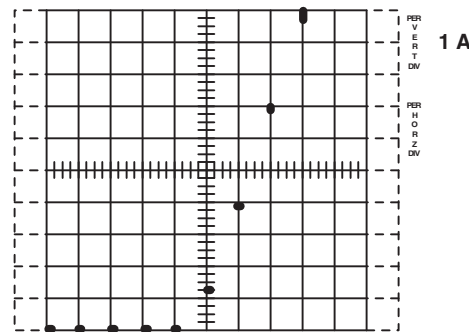

Fig. 12 - Transfer characteristic (I_D vs. V_{GS})
4. Increase the **variable collector supply** voltage to obtain the trace shown in figure 12. The transfer characteristic is outlined by the displayed points.